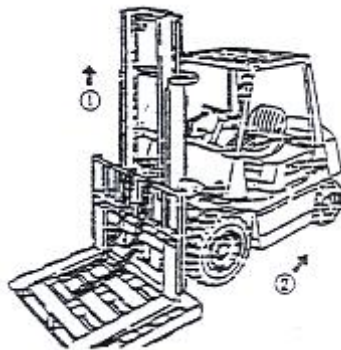

Figure 2-17
- (1) Place a tray on the forklift and park it on level ground.
- (2) Lower the fork and tray down to the ground.
- (3) Remove the upper end joint of the chain and remove the chain from the chain wheel.
- (4) Lift the inner main frame (① in Figure 2-17)
- (5) Reverse the forklift after confirming that the fork frame has been separated from the outer main frame (② in Figure 2-17).
- (6) Replace the main roller